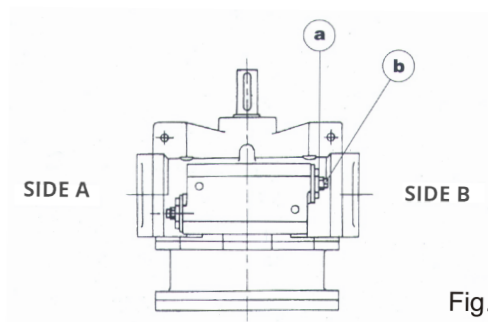

Fig. 7.5
- Please bear in mind that the screw placed on side **A** regulates the delivery pressure on side **B** and the screw located on side **B** regulates the delivery pressure on side **A** (see figure 7.5).